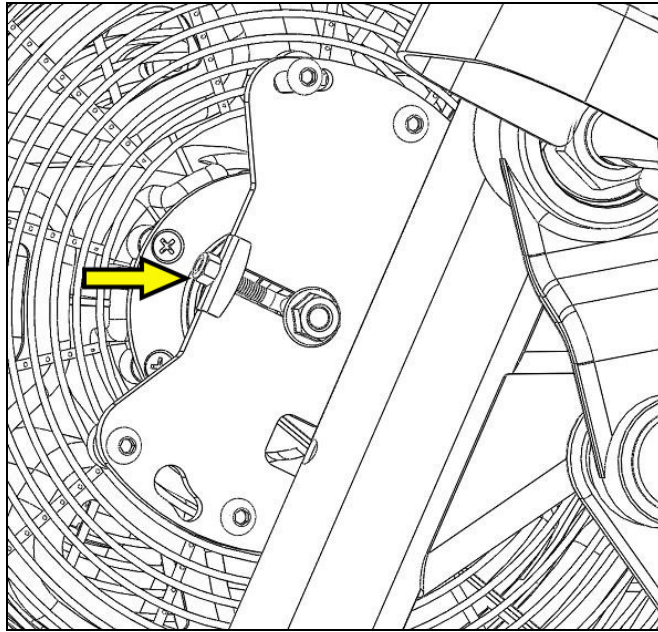

Fig. 7
7. Remove left and right tension nut using 10mm socket (Fig. 7).